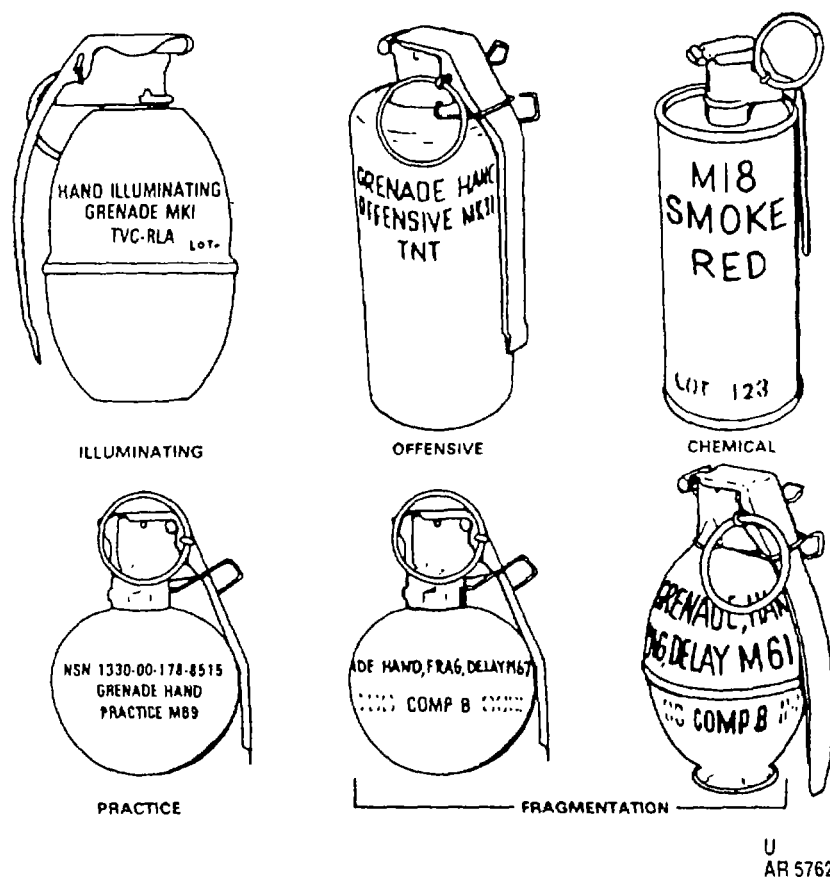

Figure 1-1. Representative types of hand grenades.
*b. Types.* There are five types of hand grenades (fig. 1-1):